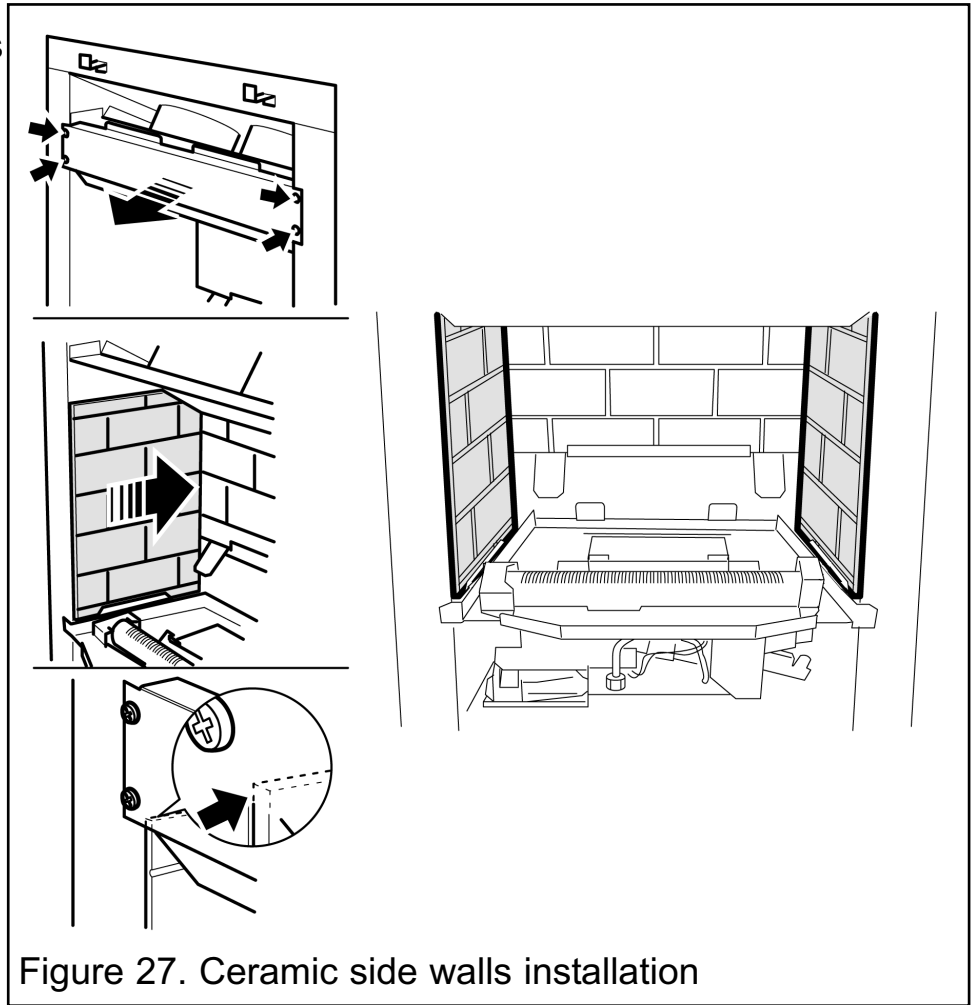

Figure 27. Ceramic side walls installation
2. Remove four screws from the spillage plate sides (See figure 27).
4. Fit the ceramic side walls against the side faces of the burner compartment. The bottom edges of the walls should rest in the ledges at the sides of the firebox. Slide them in from the front and ensure that they touch the rear wall. The friction between the side walls and the rear wall should hold the side walls in position (See figure 27)